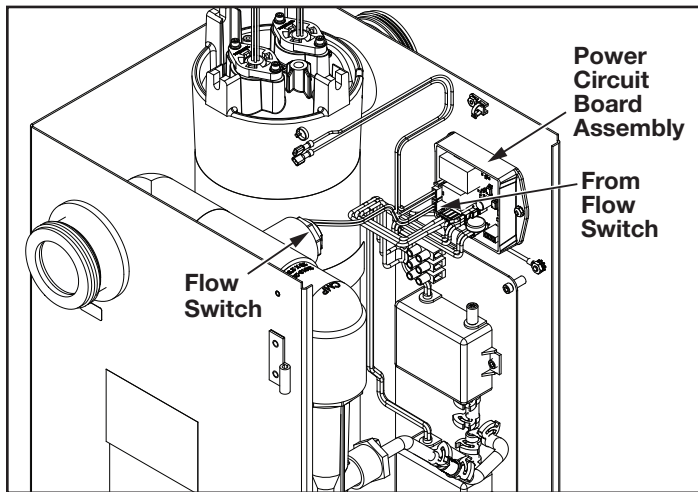

Figure 17. JAOPX200 / JAOPX350 Flow Switch Location and Electrical Connection
4. Disconnect the flow switch connectors from the circuit board assembly. See Figure 17.
8. Reconnect the flow switch into the appropriate slot on the circuit board assembly. See Figure 17.